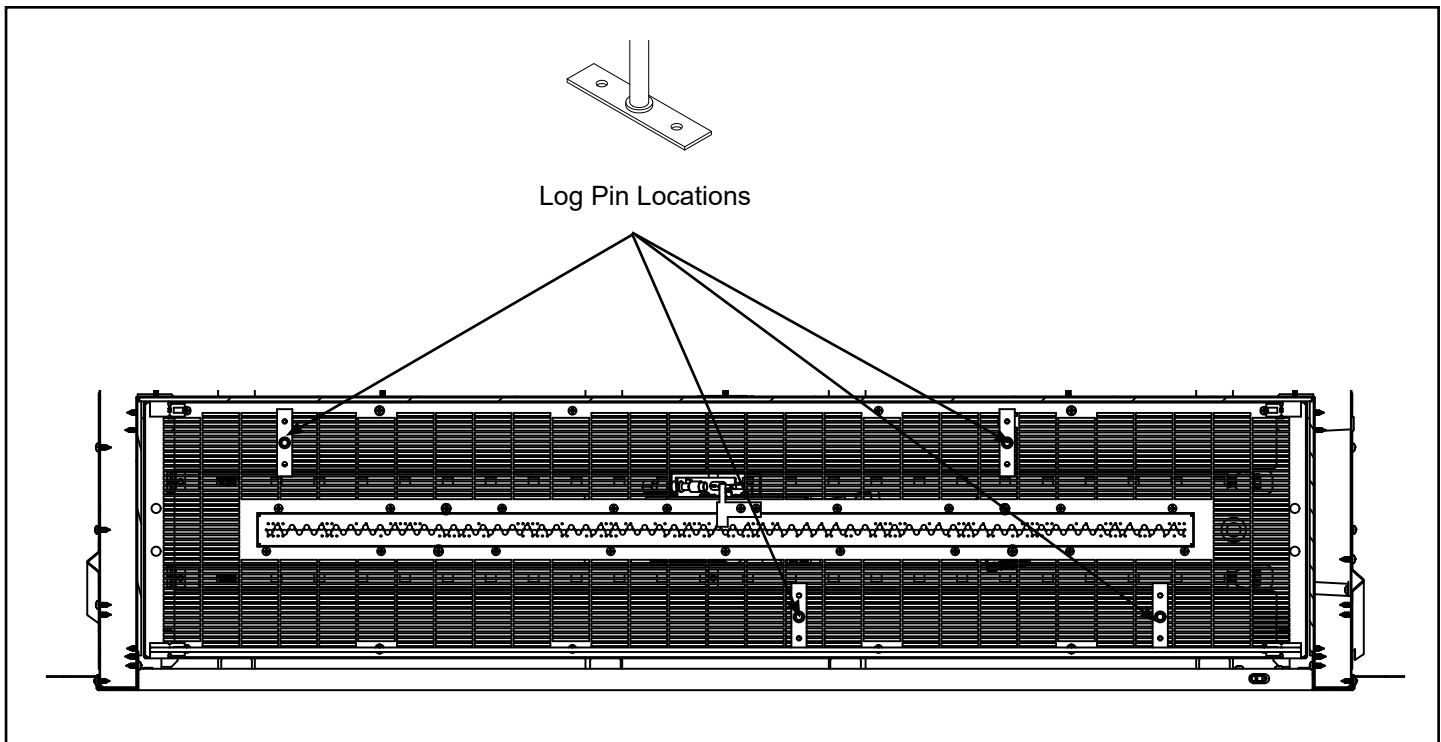

Figure 7.5– Log Pin Placement for AVFL42N(P)IF-BU, AVFL42N(P)IF-RB, AVFL48N(P)IF, AVFLST48N(P)IF, ODLANAIG-48 AND ODLANAIGST-48
NOTE: Prior to installing the log set, you must first install the pin brackets on the burner. The air deflection glass and glass media should only be installed after the pin brackets are in place. The air deflection glass should be installed prior to placing glass media on the burner. The logs must then be placed in the unit after the glass media and air deflection glass. If the optional logs are added to the appliance after installation of deflective glass and glass media, move the glass media away from the pin location holes on the firebox bottom assembly as per Figure 7.5 or 7.7.
1. Mount the four log support pin brackets using mounting holes and screws provided in locations indicated in Figure 7.5 for the front and rear log. Only one hole of the pin bracket will be used to secure the pin to the outside of the burner assembly base. The other hole remains unused and rests on the mesh area. Next, arrange glass media evenly across the burner again.